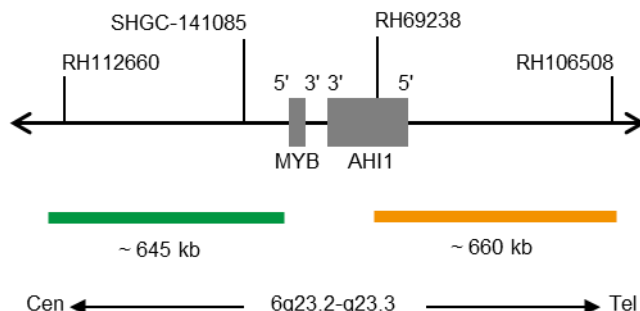

Fig. 1: SPEC MYB Probe map (not to scale)
- ZyGreen (excitation 503 nm/emission 528 nm) labeled polynucleotides (~10.0 ng/μl), which target sequences mapping in 6q23.2-q23.3\* (chr6:134,840,690-135,483,752) proximal to the MYB breakpoint region (see Fig. 1).
- ZyOrange (excitation 547 nm/emission 572 nm) labeled polynucleotides (~4.5 ng/μl), which target sequences mapping in 6q23.3\* (chr6:135,728,667-136,390,142) distal to the MYB breakpoint region (see Fig. 1).